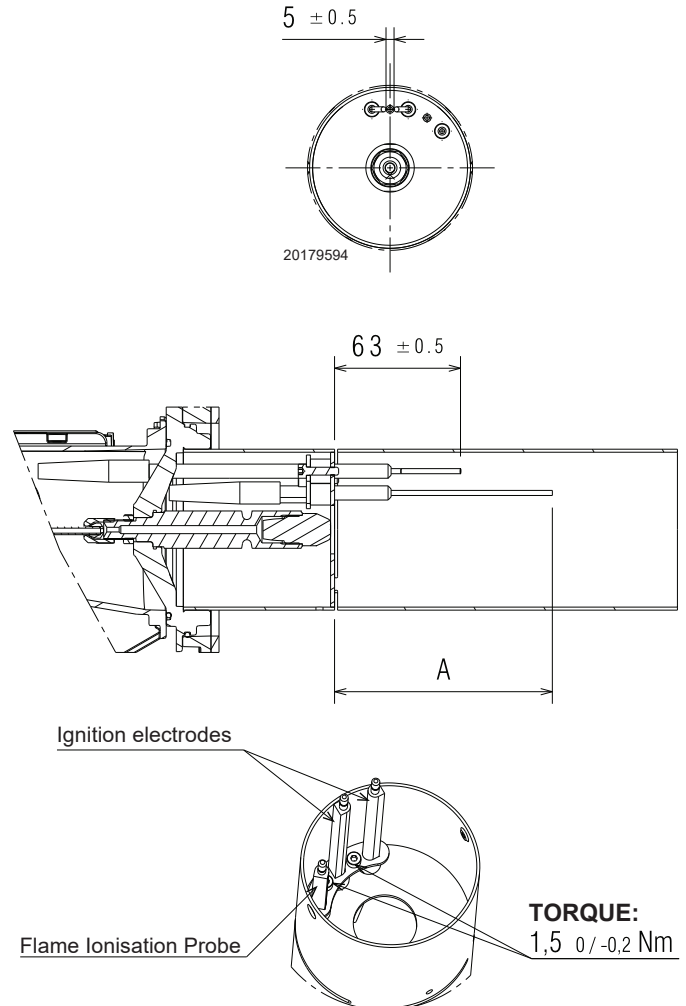

Figure 10-3: Ignition electrode and flame ionisation probe settings
5. Check/adjust both the electrode and flame ionisation probe settings. Refer to Figure 10-3.
Table 10-1: Ionisation probe length (refer to Figure 10-3)